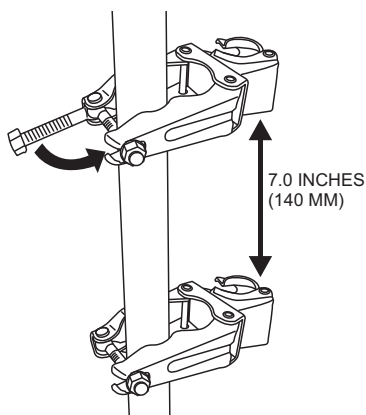

Figure 12. Distance Between Clamps
3. Attach the other clamp to the external support pole about 7 inches (140 mm) lower than the previously installed clamp. See Figure 12. If using horizontal external support poles, a second pole is needed.